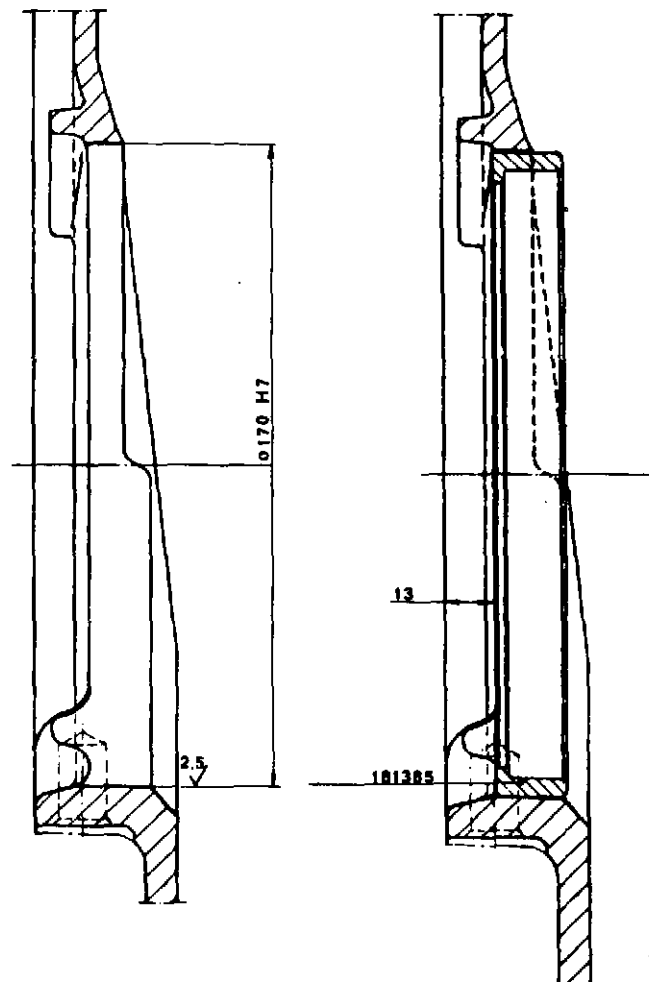

Fig 1
1. Turn out the flywheel housing according to fig. 1.